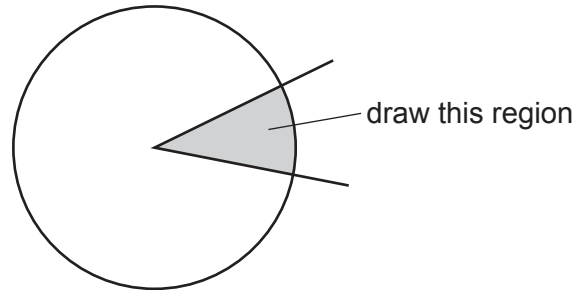

Fig. 2.1
- (a) (i)** Draw a large plan diagram of the region of the stem on **M1**, indicated by the shaded area in Fig. 2.1.